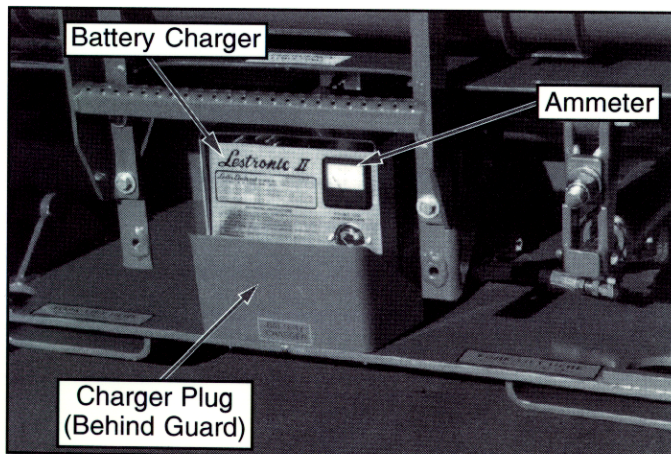

Figure 7: Battery Charger
Check battery fluid level daily (Figure 7), especially if work platform is being used in a warm, dry climate.
1. Check battery fluid level (Figure 7). If electrolyte level is lower than 3/8 in. (10 mm) above plates add distilled water only.